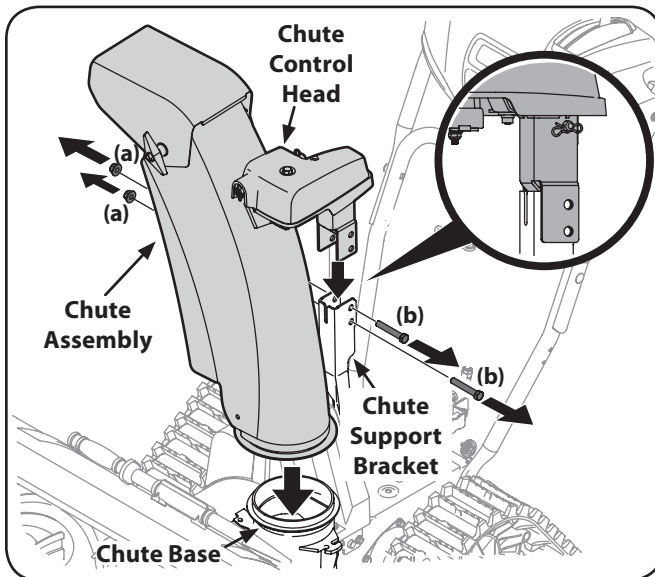

Figure 3-5
1. Remove the lock nuts (a) and hex screws (b) from chute support bracket (this will require two wrenches). See Figure 3-5.
2. Place chute assembly onto chute base and chute control head onto chute support bracket. See Figure 3-5.